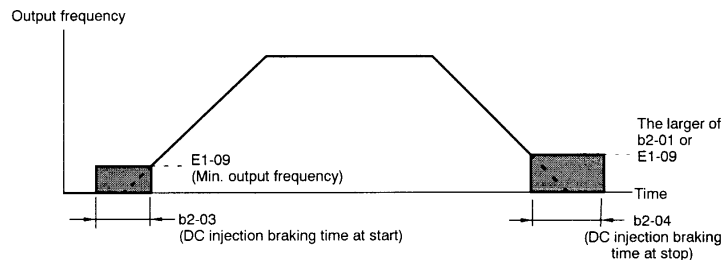

Figure 7.18 DC Injection Braking Timing Chart
- *Figure 7.18* provides a timing chart of DC Injection Braking (initial excitation).